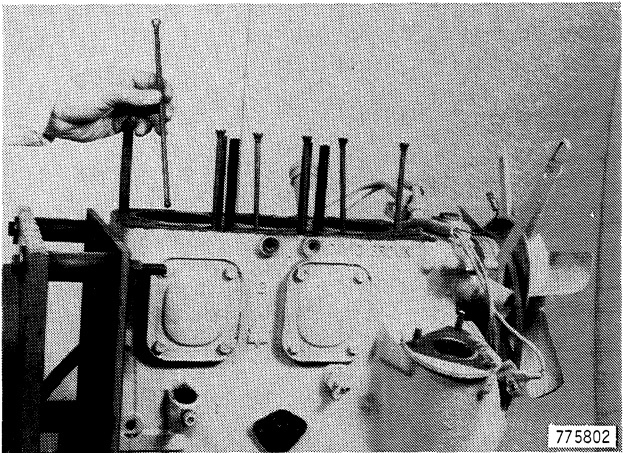

Figure 56
31. Lift the push rods from the engine, Figure 56. Keep the push rods in order so they may be replaced in the same location.